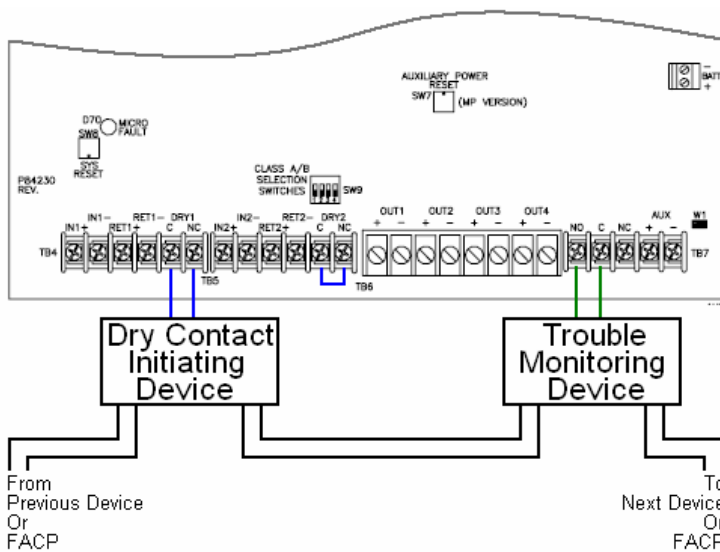

Figure 1
- The dry contact initiating devices are connected to the DRY1 C and DRY1 NC terminals as in Figure 1. The dry contacts need to be normally open devices that are held closed until alarm. To activate the power supply, open the contacts.
- The monitoring device needs to be connected to Common Trouble Output the C and NC terminals of the PS-12/24-8CP/MP as in Figure 1.